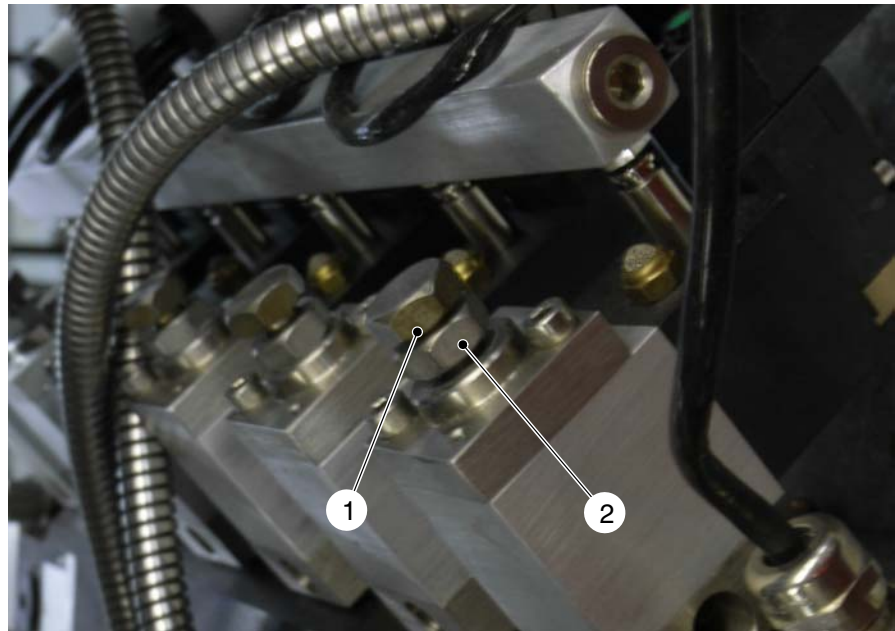

Fig. 4-3
The material flow quantity is regulated with the stem stroke adjustment (1, Fig. 4-3). By setting the nozzle stem stroke differently on the individual control modules, the material distribution can be corrected.
2. Release the stem stroke adjustment locknut (2, Fig. 4-3) on this control module.
9. Tighten the stem stroke adjustment locknut (2, Fig. 4-3) again.